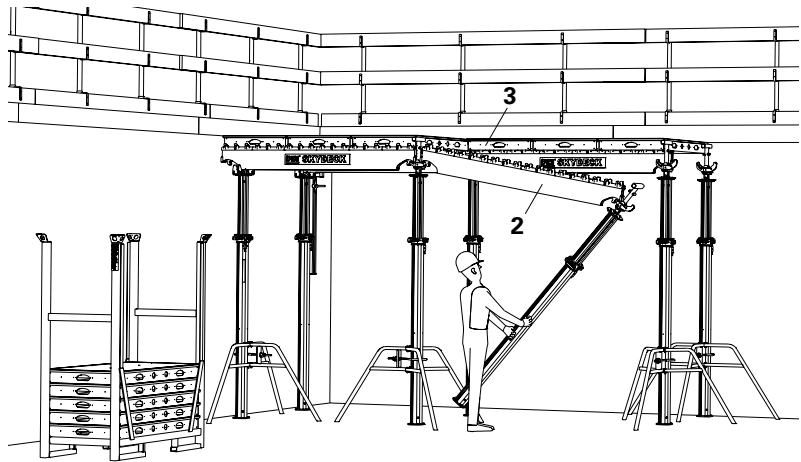
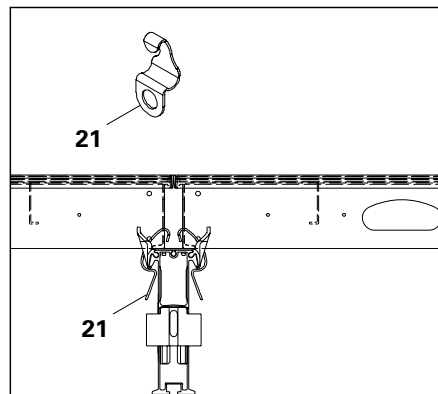

Fig. A4.15
Fig. A4.16
- bracing (Fig. A4.16)
1. Attach Main Beam SLT 225 (2) to the Drophead.
2. Connect prop with Drophead SFK in the lifted main beam. (Fig. A4.15)
4. Insert panels (3).